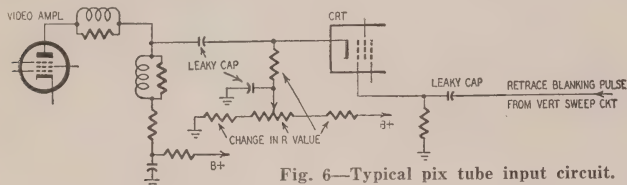

Fig. 6—Typical pix tube input circuit.
**d. Picture tube:** A number of C-R tube faults produce symptoms which give the effect of weak video. These include: defective tube (low emission causes low brightness, gassy tube causes unfocused beam and poor definition); defect in tube focusing circuit or magnet assembly; incorrect voltage applied to screen grid or focusing electrode resulting in poor contrast; weak ion trap; defect or value change in cathode or grid circuit causing either abnormally low or high brightness on the screen (Fig. 6).